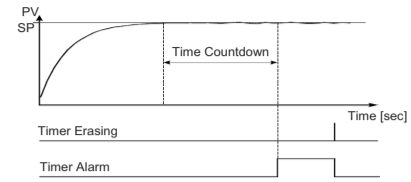

Fig 3. Principle of timer operation
When reaching the set point temperature (SP) the timer begins the countdown of the time defined by the time parameter. After counting down to zero, the timer alarm is set, which remains active till the moment of the timer erasing. To activate the timer function, one must set the parameter tmr. To indicate the alarm state on an output, one of the outputs out1, out2 should be set to AL.tr. The timer status/ residual time is displayed with the mark "t" on the first position. To display it, one must press the Enter key till the moment of its appearance on the display (acc. to the fig. 3) The return to the set point value display is set by the manufacturer on 60 sec, but can be changed.